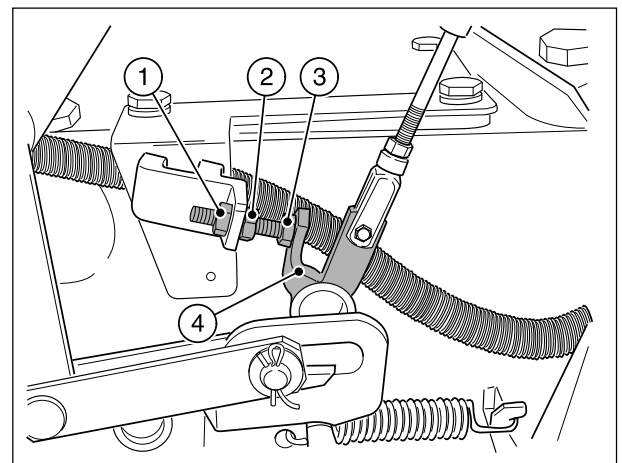

Fig.4-27b
4. Loosen the screw (3) until it touches the engagement lever (4) in neutral position as shown by figure 4-27b.
5. Lock the screw with the nut (2) and check nut (1).